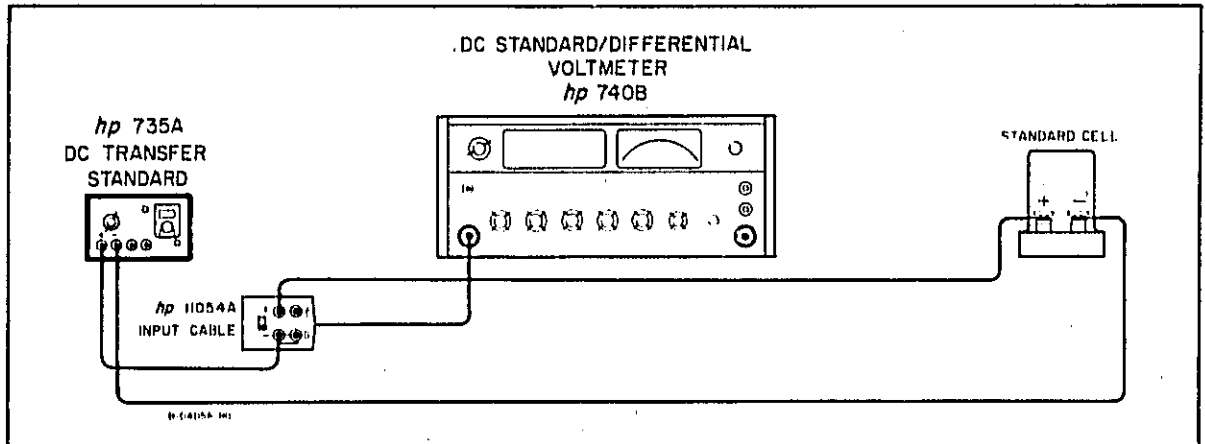
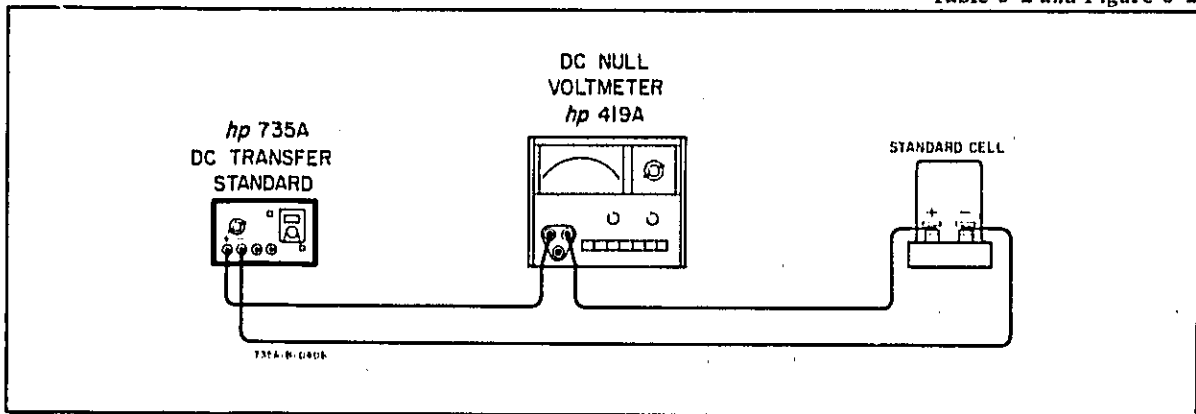

Figure 5-1. Standard Output Accuracy Check
Figure 5-2. Output Noise Test Setup
- d. Connect the 735A as shown in Figure 5-1. (Use solid copper wire tightened securely for all operations of the 735A.) Use an unsaturated standard cell and connect the positive terminal of the standard cell to the positive terminal of the 740B.
- m. Absolute reference may be checked by connecting the 735A as in Figure 5-1 or Figure 5-2 using the saturated standard cell (1 ppm)
- a. Connect the Model 735A as shown in Figure 5-2.
- p. Final adjustment: connect the 735A as in Figure 5-1 or Figure 5-2 using a calibrated saturated Standard Cell and a 410A Null Voltmeter or 740B Differential Voltmeter.